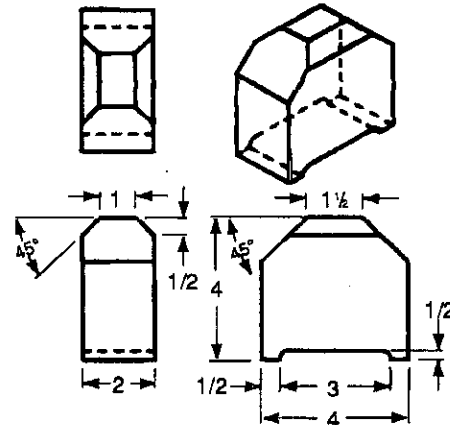
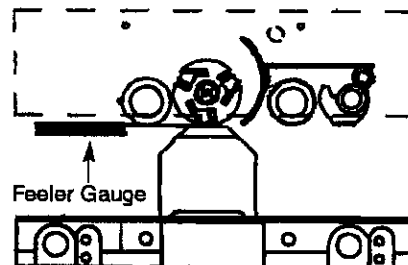

Figure 13 - Adjustment Block
Figure 14 - Cutterhead with Block
Refer to Figure 13.
Some of the maintenance adjustments require the use of a handmade adjustment block (See Figure 13).
Refer to Figures 14, 15, 19 and 20.
- Place adjustment block (Figure 13) under cutterhead at one end as shown in Figure 14. Place 1mm feeler gauge between block and blade. Raise or lower table so that blade just contacts feeler gauge when blade is at lowest position. Put gearbox in neutral and rotate cutterhead slowly to determine lowest position of blade. Lock table in position by tightening lock knobs (Figure 20, Key No. 75). Do not unlock table position until both sides of outfeed roller have been adjusted.
Refer to Figures 13, 14, 16, 19 and 20.
- Place adjustment block (See Figure 13) under cutterhead at one end as shown in Figure 14. Place 1mm feeler gauge between block and blade. Raise or lower table so that blade just contacts feeler gauge when blade is at lowest position. Put gearbox in neutral and rotate cutterhead slowly to determine lowest position of blade. Lock table in position by tightening lock knobs (Figure 20, Key No. 75). Do not unlock table position until both sides of chipbreaker have been adjusted.
Refer to Figures 13, 17 and 20.
- Place adjustment block (See Figure 13) on table at outside edge of roller case and on infeed side of planer. Slide block to one corner of roller case. Raise or lower table until block just contacts roller case. Lock table in position by tightening lock knobs (Key No. 75). Do not unlock table position until all four corners of the roller case have been checked.